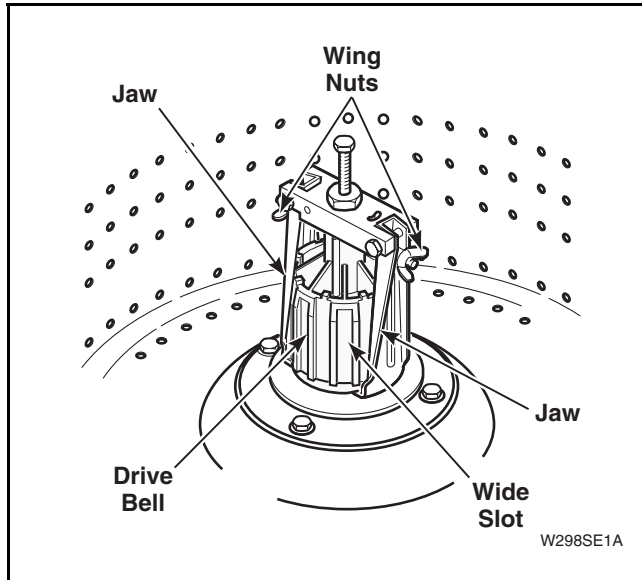

Figure 22
- Place tool over drive bell, making sure indent on jaws line up with wide slots on drive bell. Refer to *Figure 22*.
- Place lip of each jaw under bottom edge of drive bell, making sure indent on jaws line up with wide slots on drive bell. Tighten wing nuts on tool to hold jaws firmly against drive bell. Refer to *Figure 22*.